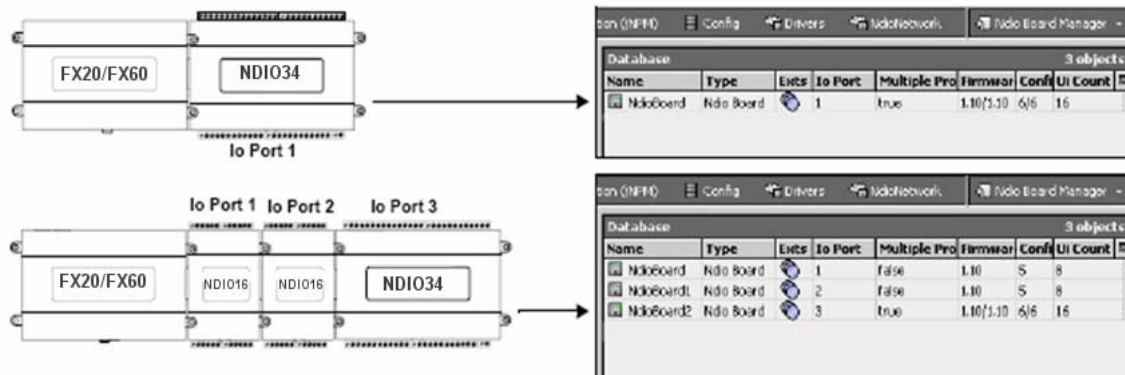

Figure 12: NDIO Board Assignment
In the FX20/FX60 station database, each NDIO34 module appears as one NdioBoard under the station's NdioNetwork. If an FX20/FX60 only has one NDIO34 module, then the NdioNetwork has a single NdioBoard component, where the **Io Port** property of the NdioBoard is **1**. See the top of Figure 12.
Upon discovery, if the FX20/FX60 has multiple NDIO modules, then the module closest to the FX20/FX60 is the first NdioBoard (property **Io Port 1**). The next module in the chain is NdioBoard1 (property **Io Port 2**). The third module is NdioBoard2 (property **Io Port 3**). See the bottom of Figure 12.
1. Plug in the 24 V connector plug to apply power. The NDIO34 board status LED is initially Off (Figure 12), but the power LED on the NDIO34 and FX20/FX60 should be lit. Allow the FX20/FX60 sufficient time to boot (at least 2 minutes).